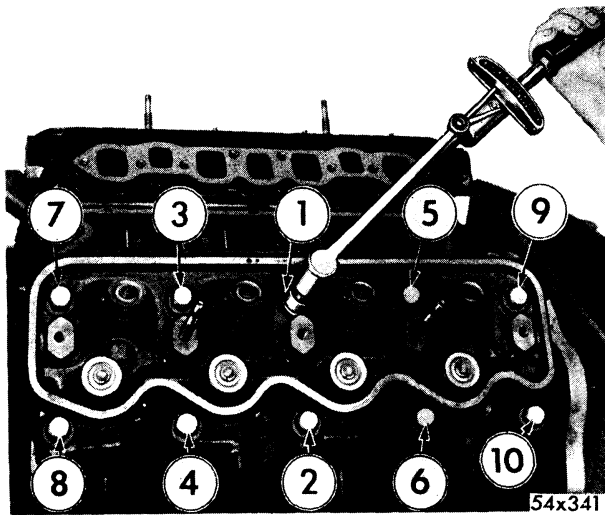

Fig. 75—Tightening Cylinder Head Bolts (Typical)
- (5) Tighten cylinder head bolts in sequence to 85 foot-pounds torque, as shown in Figure 75.